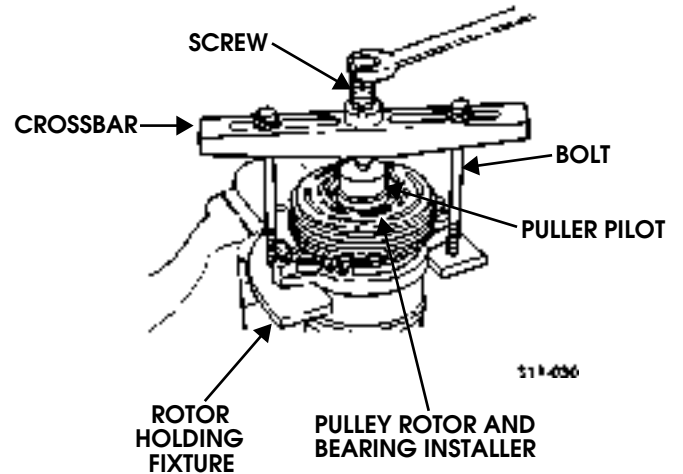

Figure 11-37: Pulley Rotor and Bearing
- With the compressor mounted to the holding fixture, position the rotor and bearing assembly on the front head (Figure 11-37).